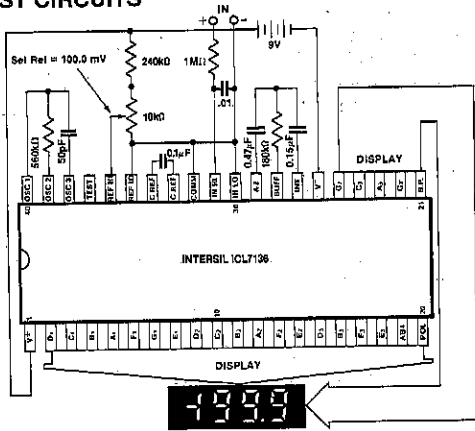

Figure 1. 7136 Clock Frequency 16kHz (1 reading/sec)
**Note 3:** Unless otherwise noted, specifications apply at  $T_A = 25^\circ C$ ,  $f_{clock} = 16kHz$  and are tested in the circuit of Figure 1.